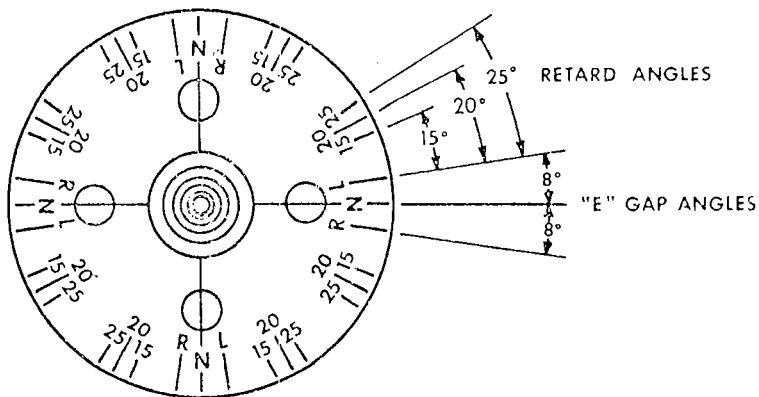

Figure 5-2. Timing Marks on Rotating Magneto
(2) Back the engine up a few degrees and again bump forward toward number one cylinder firing position while observing timing lights. Both lights should go out to indicate opening of the main breakers, when the timing pointer is indicating within the width of the "L" or "R" mark. If breaker timing is incorrect, loosen breaker screws and correct. Retorque breaker screws to 20 to 25 in. lbs.
(4) Back the engine up a few degrees and again bump forward toward number one cylinder firing position until pointer is aligned with 15° retard timing mark. See figure 5-2. Retard breaker should just open at this position.